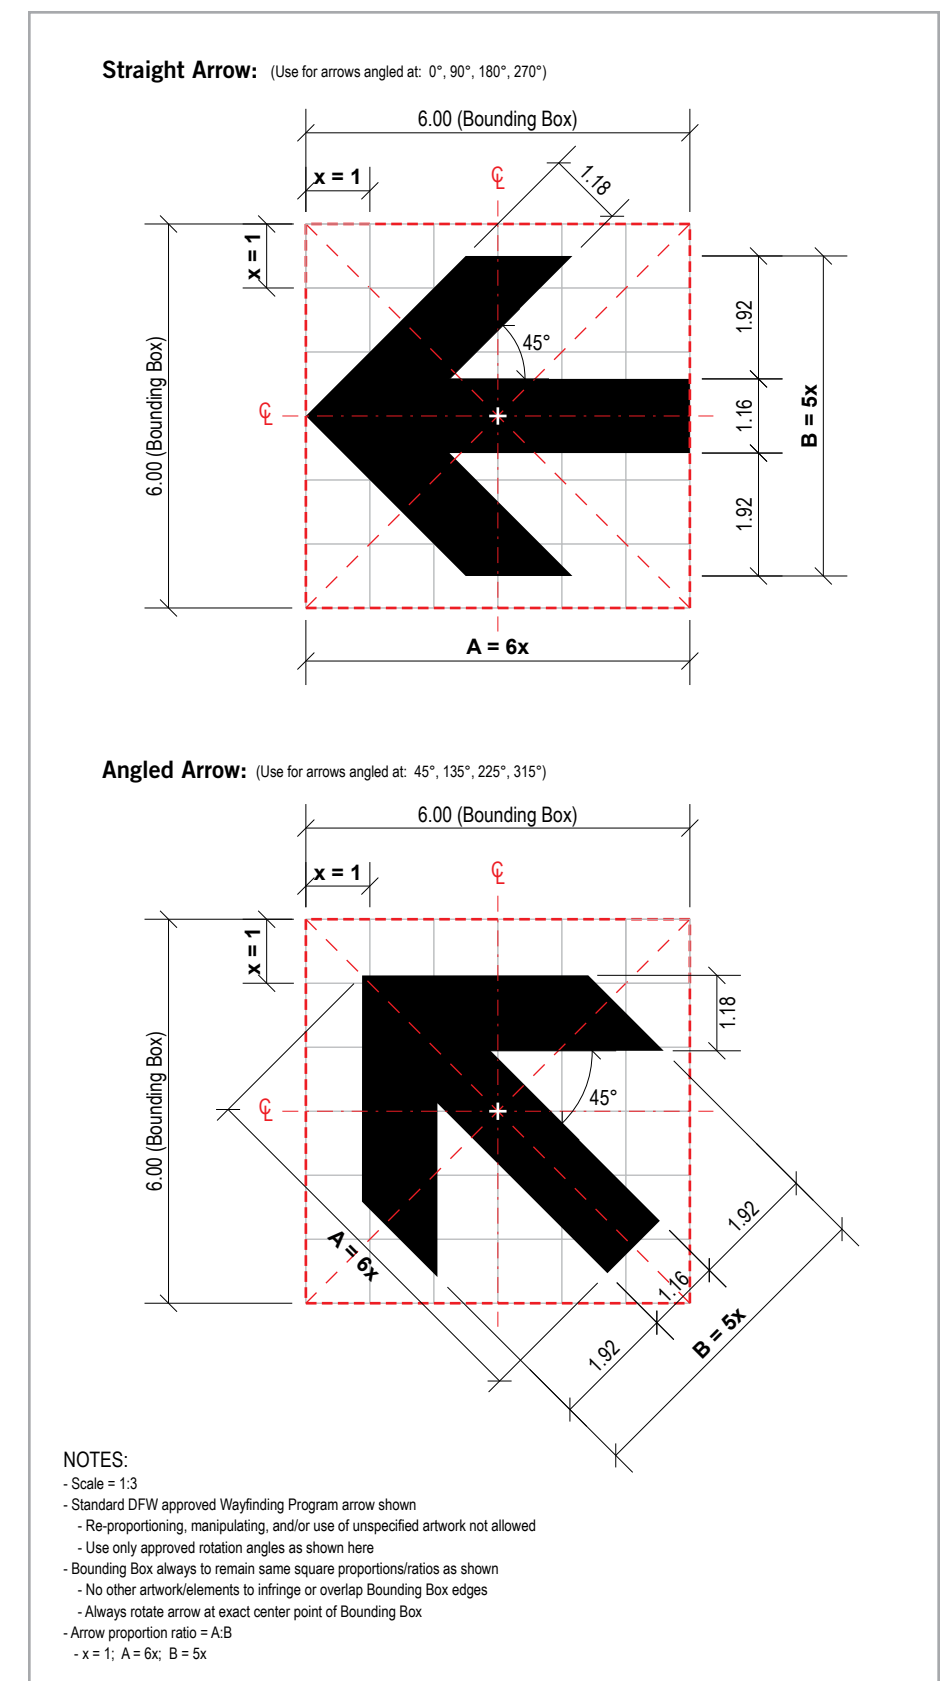

Figure 2.4.1b
- The placement of arrows on sign faces should conform to the standards and guidelines provided. Arrows should not be positioned in any other location on the sign face. Arrows should not be stretched or re-proportioned outside of the standard locked-up wayfinding arrow artwork as shown (see Figure 2.4.1b). See the DFW Signage Standards and Guidelines for specific sign type arrow/graphic face layouts